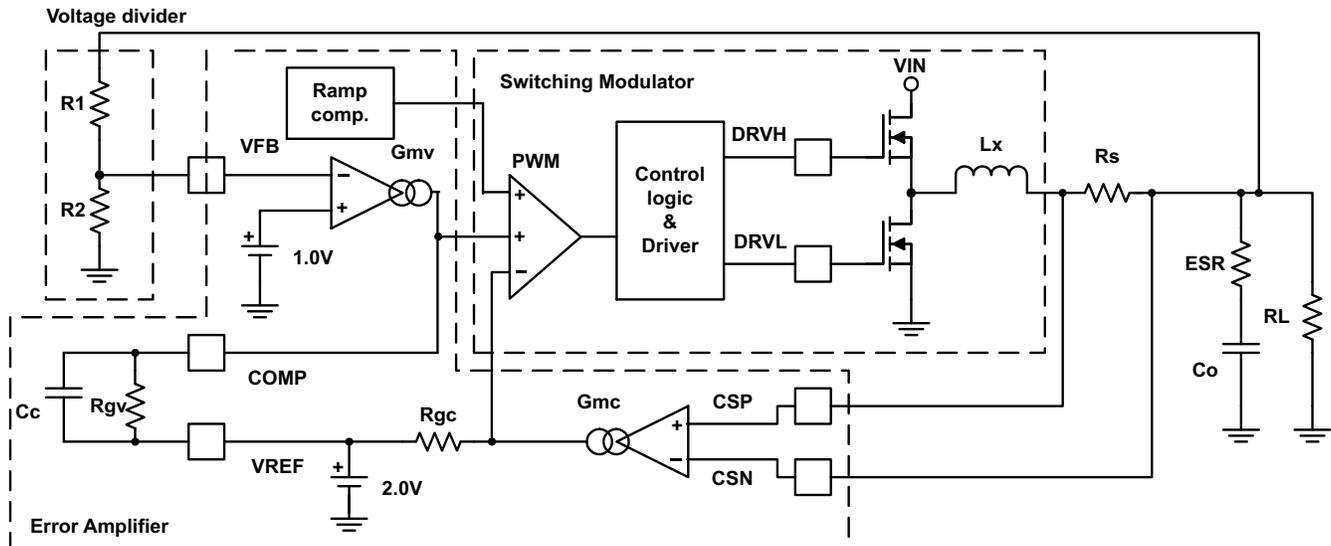
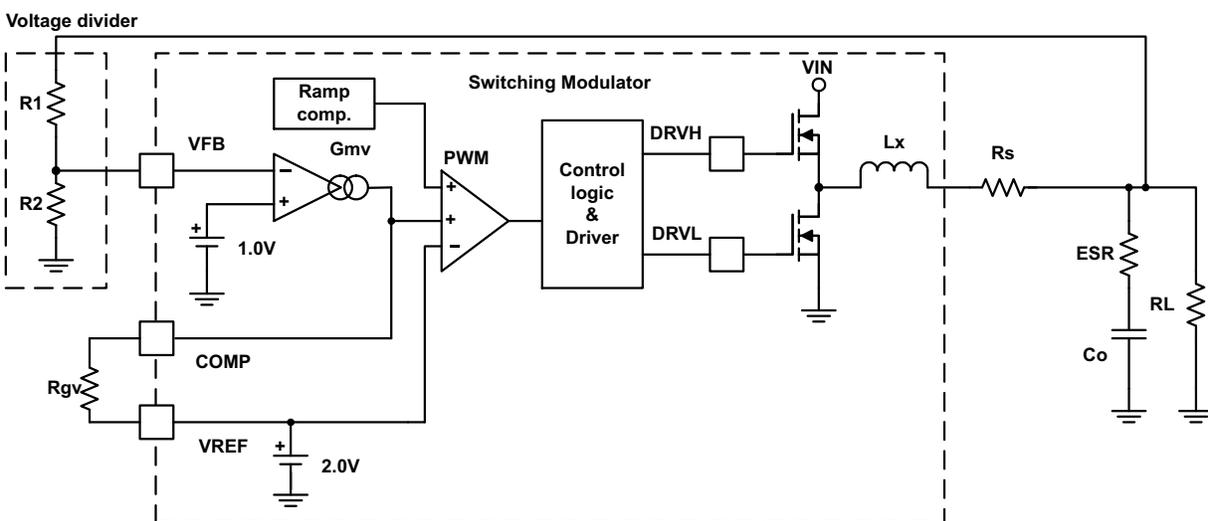

Figure 44. Simplified Current Mode Functional Blocks
Figure 45. Simplified D-CAP Mode Functional Blocks
A buck converter using the TPS51220A consists of linear circuits and a switching modulator. Figure 44 and Figure 45 show basic scheme.
1. Determine output voltage dividing resistors (R1 and R2: shown in Figure 44) using the next equation